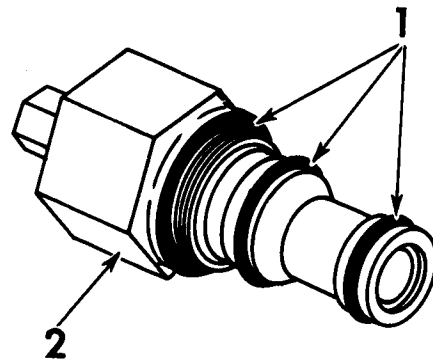

Figure 4-57
Remove and discard "O" rings (1, Fig. 4-57) from cartridge valves (2).
Install new "O" rings (1, Fig. 4-57) on cartridge valves (2). Lubricate "O" rings thoroughly with clean transmission fluid.